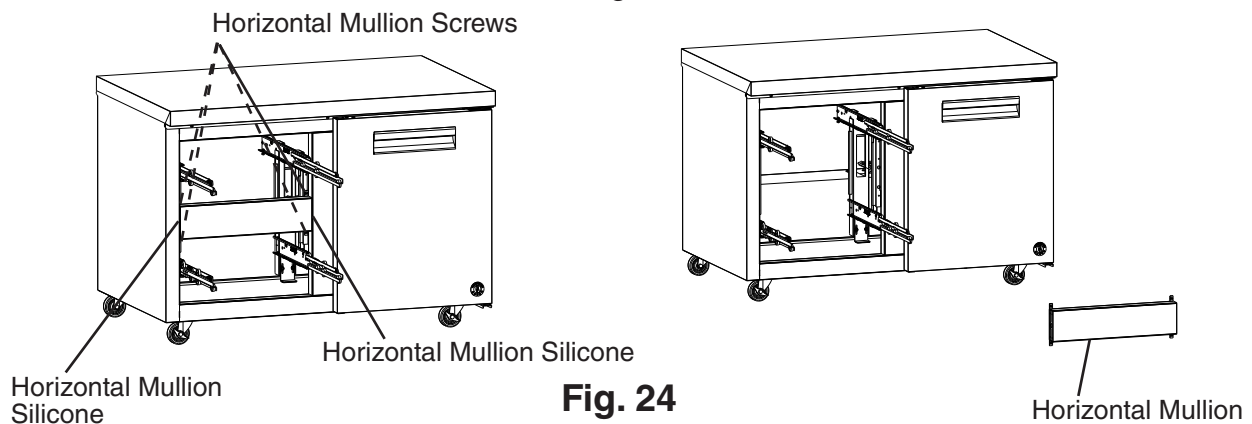

**Fig. 24**
- 3) Remove the 4 horizontal mullion screws, then cut the horizontal mullion silicone loose and remove the horizontal mullion. See Fig. 24.